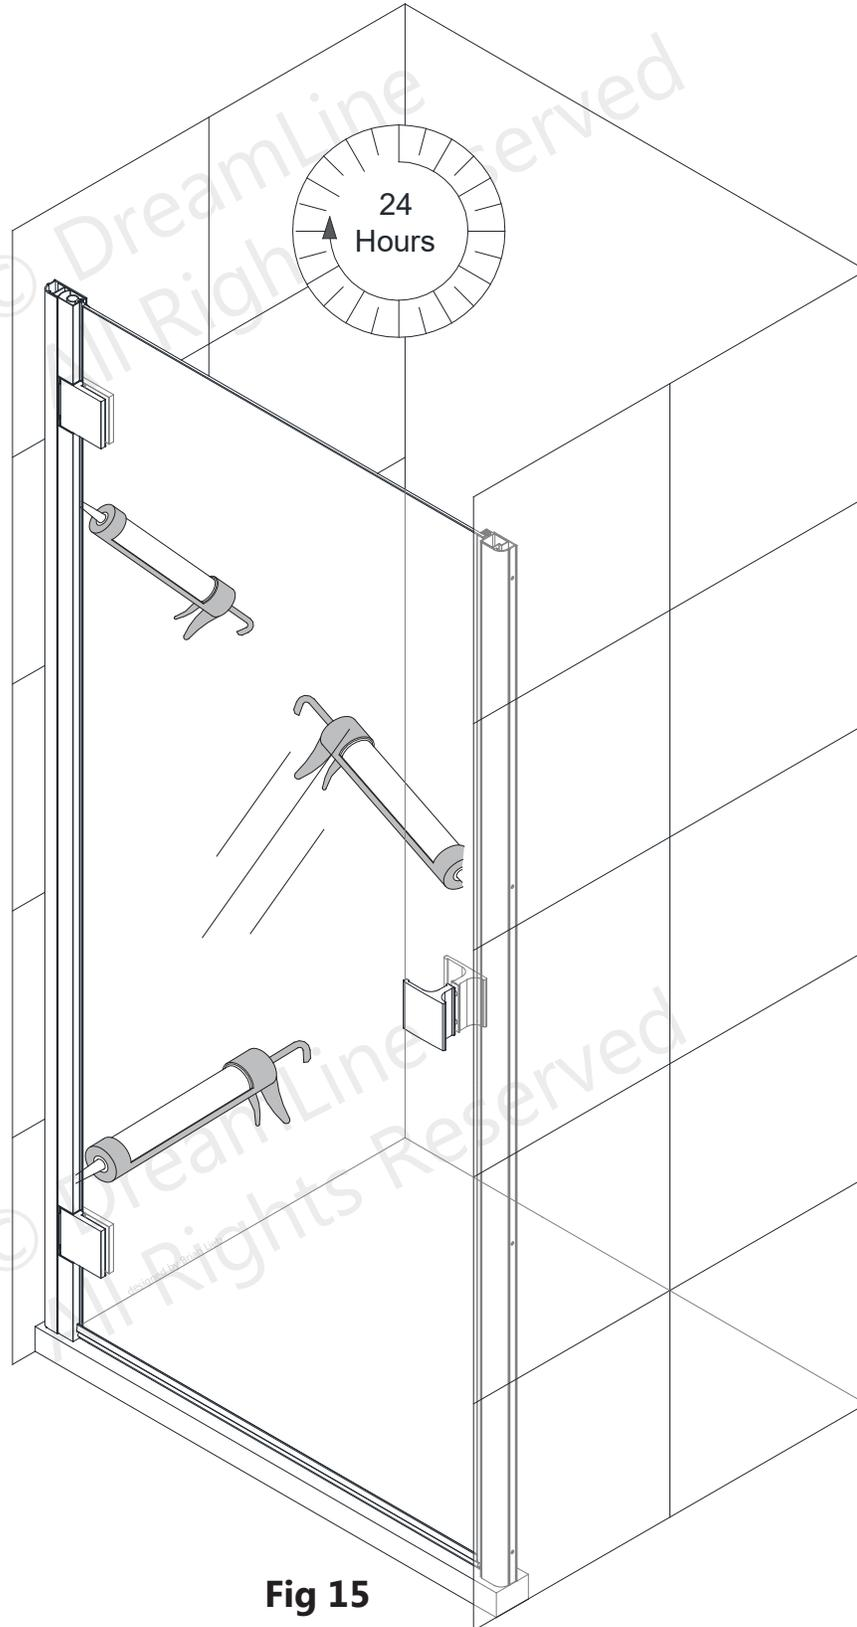

Fig 15
15. From inside the shower, apply a good quality mildew-resistant silicone where the profiles meet the walls. Silicone may also be applied on the outside of the profiles if necessary. **(Fig 15)**